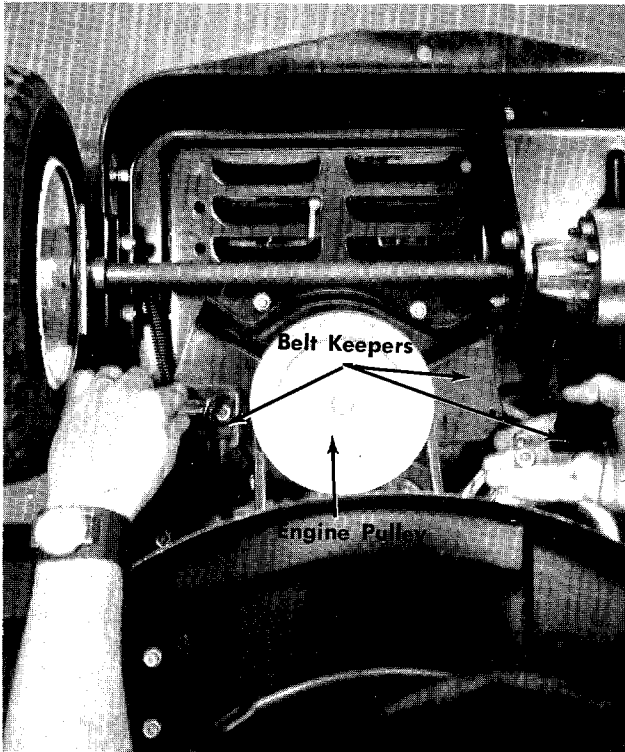

FIGURE 15. REMOVAL OF BELT KEEPERS
BELT REMOVAL See figures 15 through 19.
- Step 2. Remove two belt keepers at the engine pulley. See figure 15.